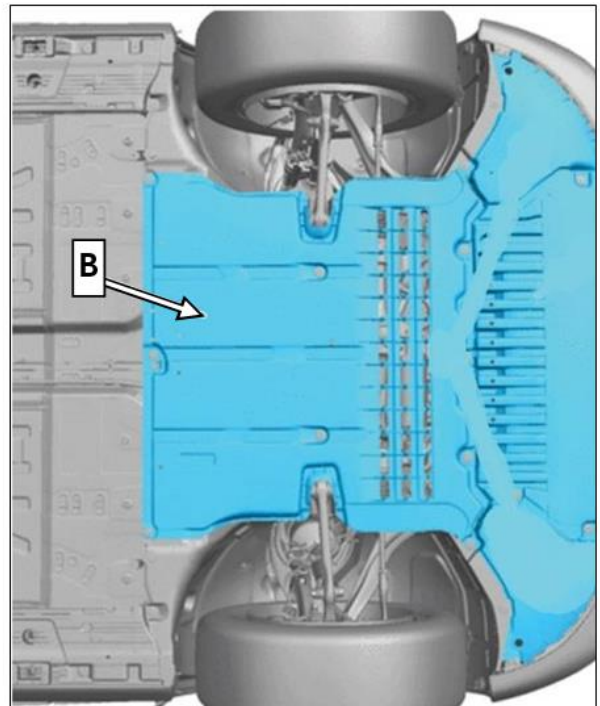

Figure 2
2. Remove rear engine compartment cover (**B, Figure 2**).
4. Replace rear engine compartment cover (**B, Figure 2**).